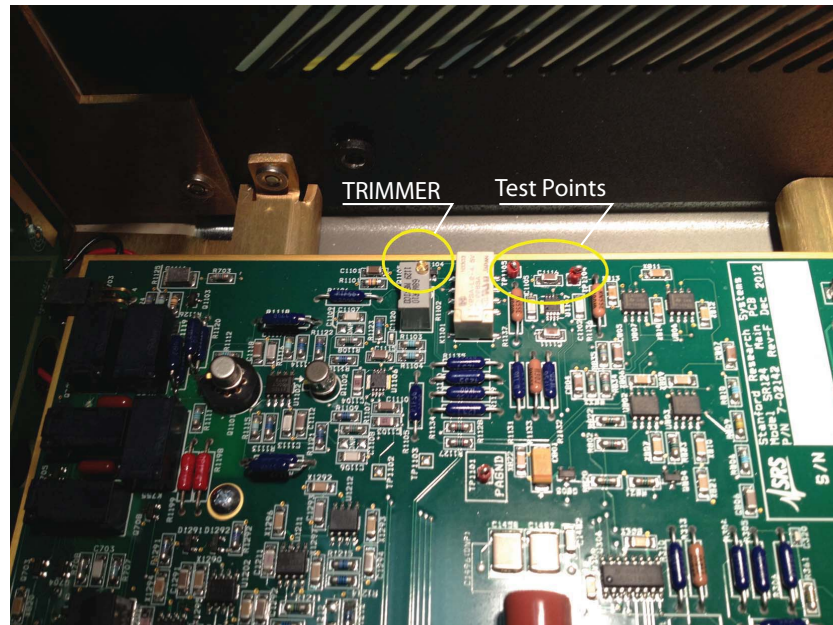

Figure 5.3: Trimming the replacement JFET
8. Attach the voltmeter test leads to Test Points TP1104 and TP1105 (see Figure 5.3). Slowly adjust trimmer R1102 to null the voltage between TP1104 and TP1105. You should be able to reduce the voltage to < 5 mV.